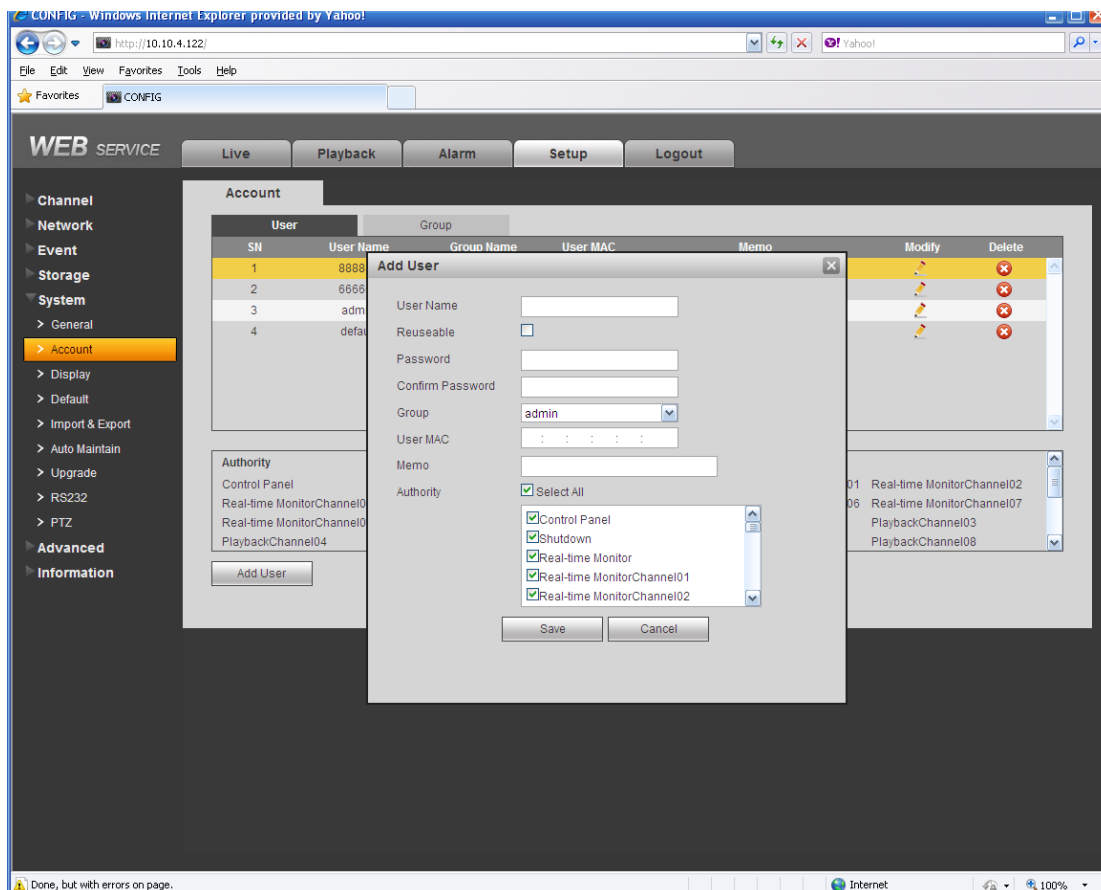

Figure 7-68
**Add user:** It is to add a name to group and set the user rights. See Figure 7-68.